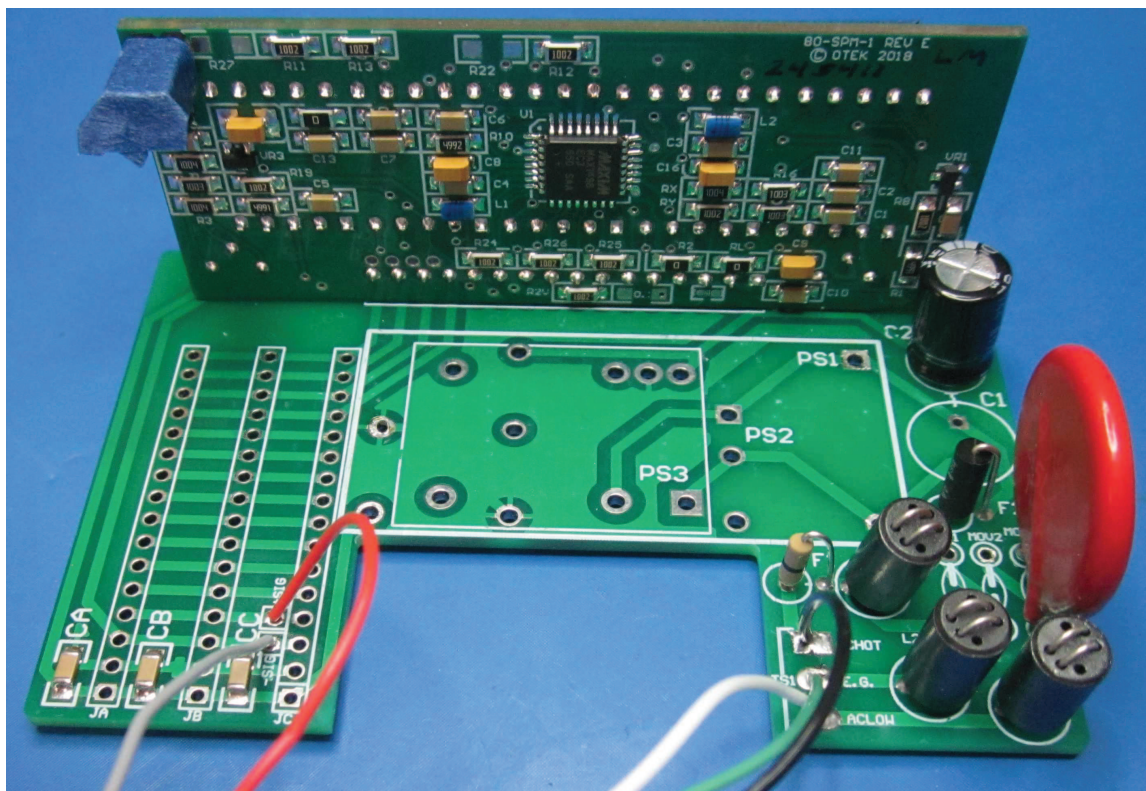

Figure 8: 80-SPM-1 installed on 80-SPM-16
4.3.1 Locate the corresponding (by serial number) 80-SPM-16 Power and Termination Board and solder the two (2) boards together as shown below in **Figure 8**.
4.3.2 Install and solder the wires used to jumper the 80-SPM-16 to the Terminal Barrier Strips located on the back plate. The wiring diagram and picture showing the assembly is shown in **Figures 8 and 9**. Wash the entire assembly in isopropyl alcohol to remove all flux residue.